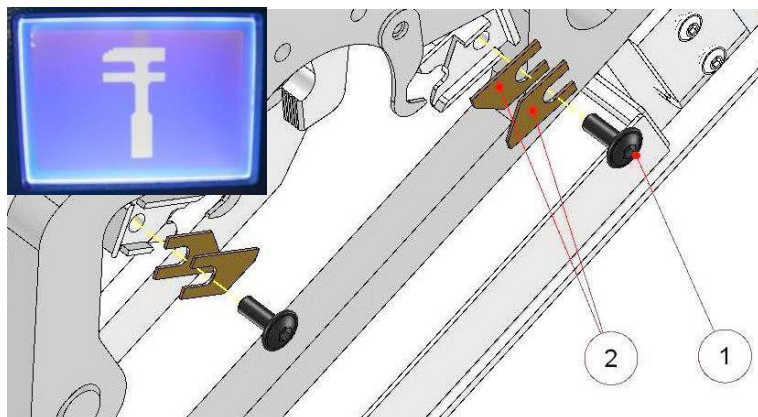

Fig. 19: Replacing the insulation stripping blade
- Remove the screws (see fig. 19, item 1).
- Replace the insulation stripping blade (see fig. 19, item 2).